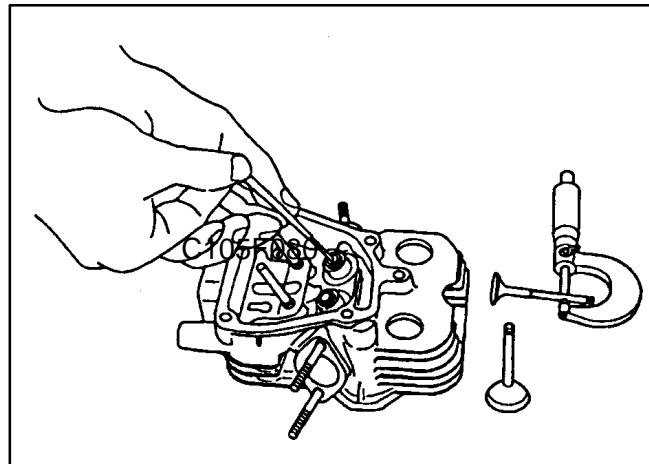

FIGURE 9-27. CLEARANCE BETWEEN VALVE STEM AND VALVE GUIDE
1. Measure the valve stem O. D. with an outside micrometer (Figure 9-27).